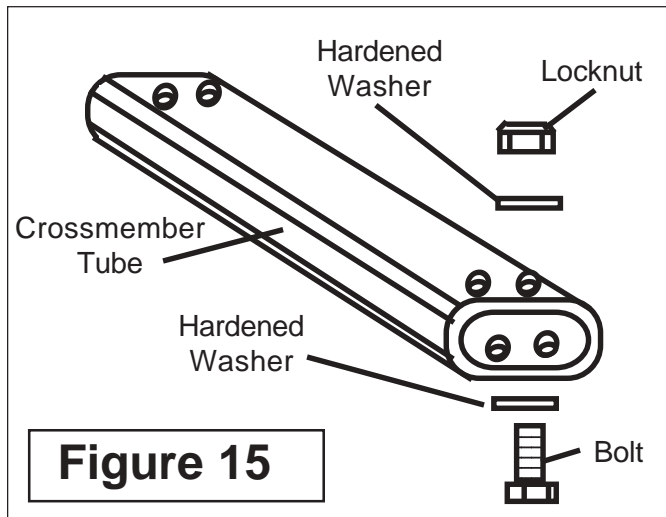

Figure 15
9. Install Crossmember between frame rails. Install the cross member Tube (P/N 02980697) to the frame rails underneath tractor. There is no welding required to install this crossmember. When installing the four 3/4" NC X 4-1/4" Gr. 8 bolts (P/N 02980730), it will also be REQUIRED that a hardened flat washer P/N 5312316 (3/4") be used on top and bottom of crossmember (See Figure 15). DO NOT tighten these four bolts at this time. The holes in the mounting straps for crossmember are slotted, this is to allow the frame rails to be moved around to enable alignment.